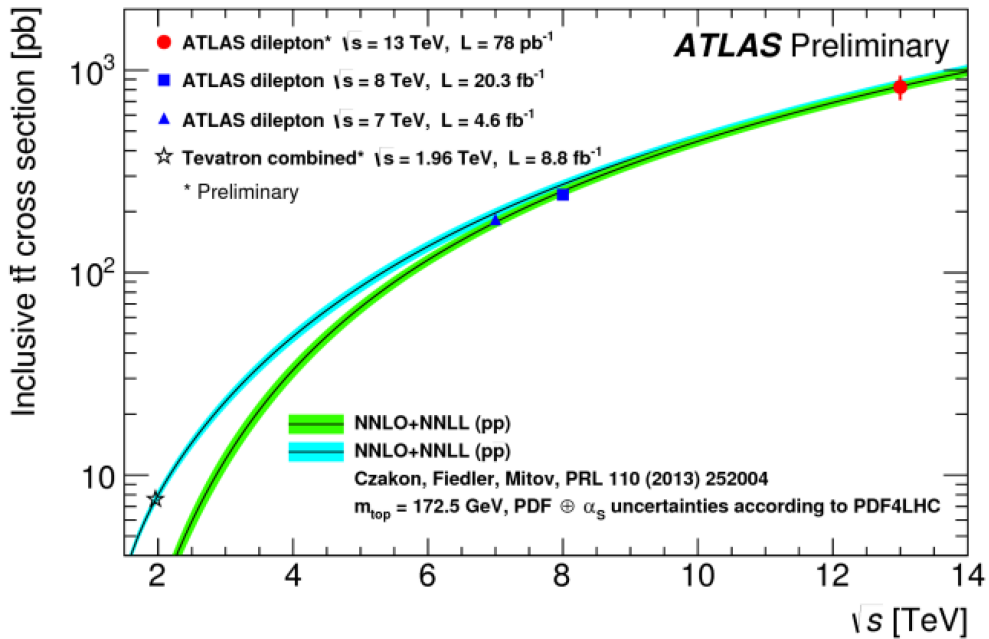

Figure 1: Cross section for pp (green) and $p\bar{p}$ (blue) (ATLAS)
- The cross section for pp or $p\bar{p}$ collisions as a function of $\sqrt{s}$ is given in Figure 1.